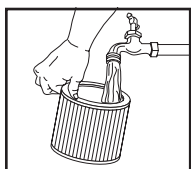

FIGURE 21
26. Or rinse (from the inside of the filter) with water. **FIGURE 21.** Dry completely (approximately 24 hours).